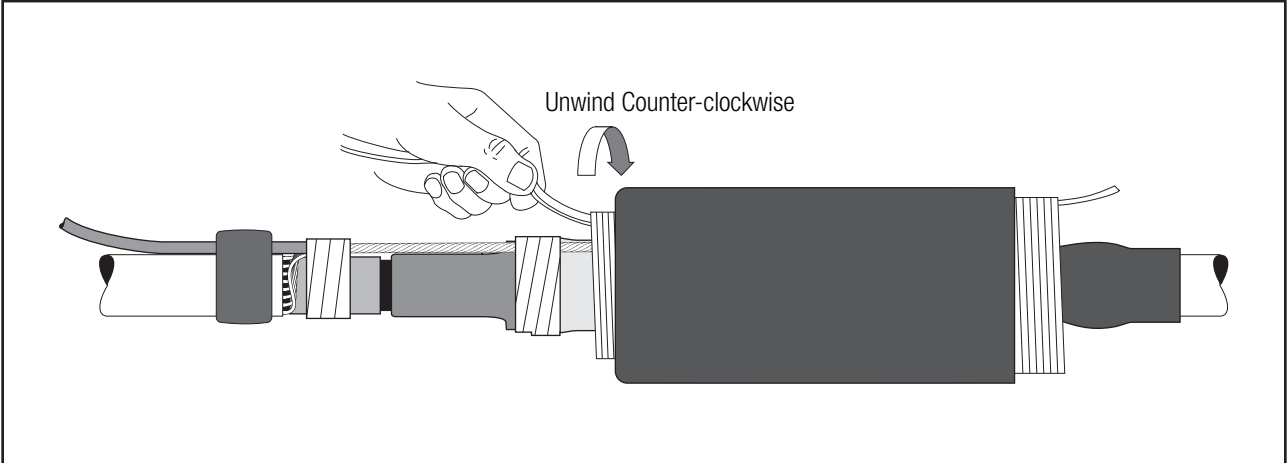

Figure 25
- 7.2 Begin to install the cold shrink tube by completely covering the rubber mastic, and slowly pulling and unwinding the inner core counterclockwise toward the splice body. The outer core should remain relatively stationary while unwinding the inner core. If the outer core begins to move towards the first mastic seal, gently pull the outer core and jacketing tube towards the second mastic seal and continue unwinding the inner core (Figure 25).